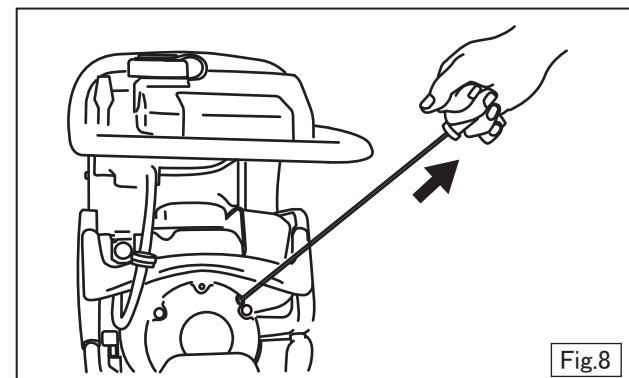

Fig.8
3. Hold the recoil starter handle and pull it a little. You will feel resistance. Then, pull it hard to turn the engine. Allow the starter rope to return slowly into the case before letting go of the handle. (Fig.8)